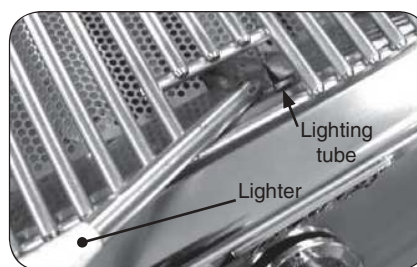

Fig. 13-2 - Manual lighting
2. Insert either a burning long-barrel butane lighter or a burning long-stem match through the cooking grid opening to the top of the lighting tube. (Fig. 13-2).
4. If the burner does not light, **immediately depress the knob and turn the valve to OFF**. **WAIT FIVE (5) MINUTES** before repeating steps 2 through 4 of the **MANUAL LIGHTING** instructions.